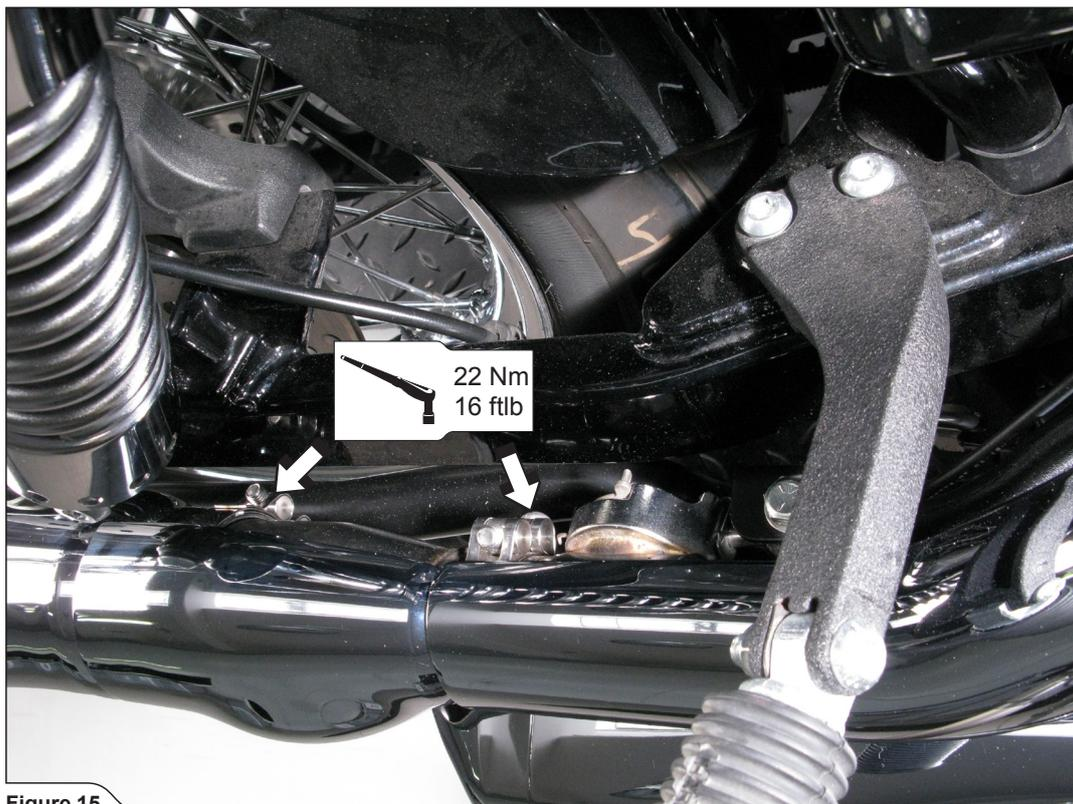

Figure 15
8. Align both link pipes' heat shields in respect to the mufflers and original heat shields and tighten all marked clamps to the specified torque (**Figure 15, 16**).